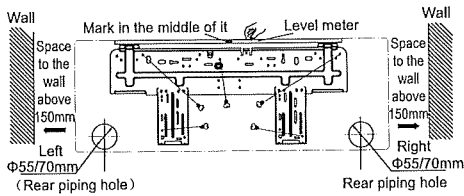

Fig.1
- (1) Choose the position of piping hole according to the direction of outlet pipe. The position of piping hole should be a little lower than the wall-mounted frame. (As show in Fig.1)